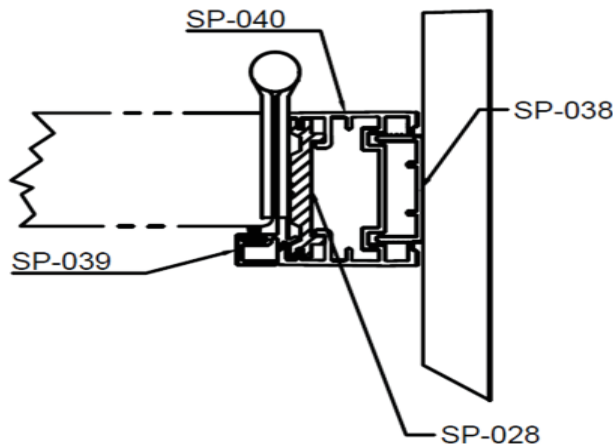

Figure 4: Detail Drawing 2
Step 4: Install vertical H-channel stud on hinge jamb side of opening (see fig. 4).